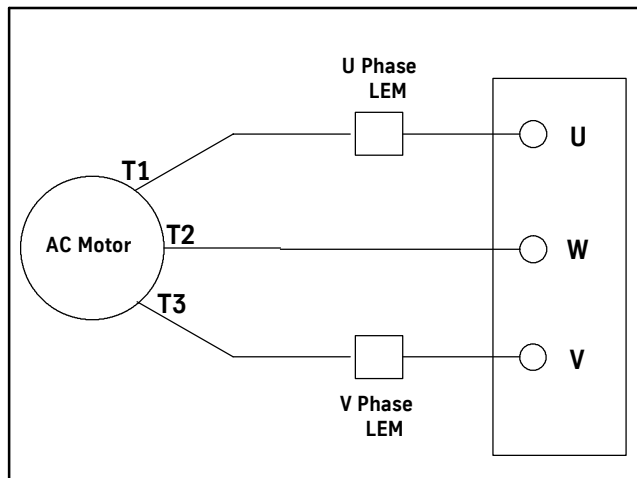

Figure 11 - AC Output Wiring without Motor Contactor
- **Installations WITHOUT Motor Contactor: See Figure 11.**